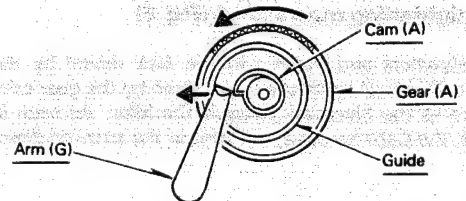

Fig. 10
3. As a result of the action of the Guide, Arm (G), at each rotation, moves toward the center of Gear (A). However, Lever (F) pushes Arm (G) in the circumferential direction of Gear (A), so there is no possibility of Cam (A) pushing Arm (G) downward (Fig. 10).